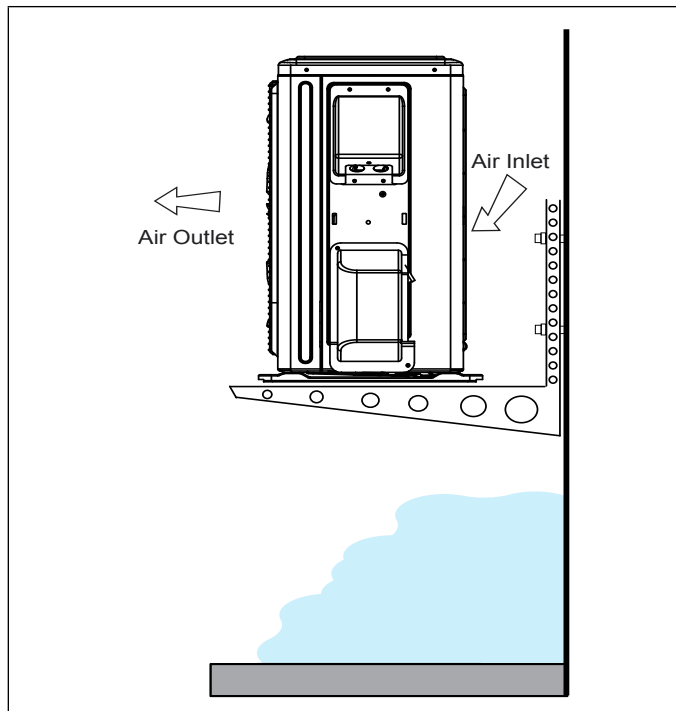

Figure 8. Outdoor Unit on Brackets above Snow Line
- The outdoor unit base should be elevated above the depth of average snows as illustrated in “Figure 8. Outdoor Unit on Brackets above Snow Line” on page 7.